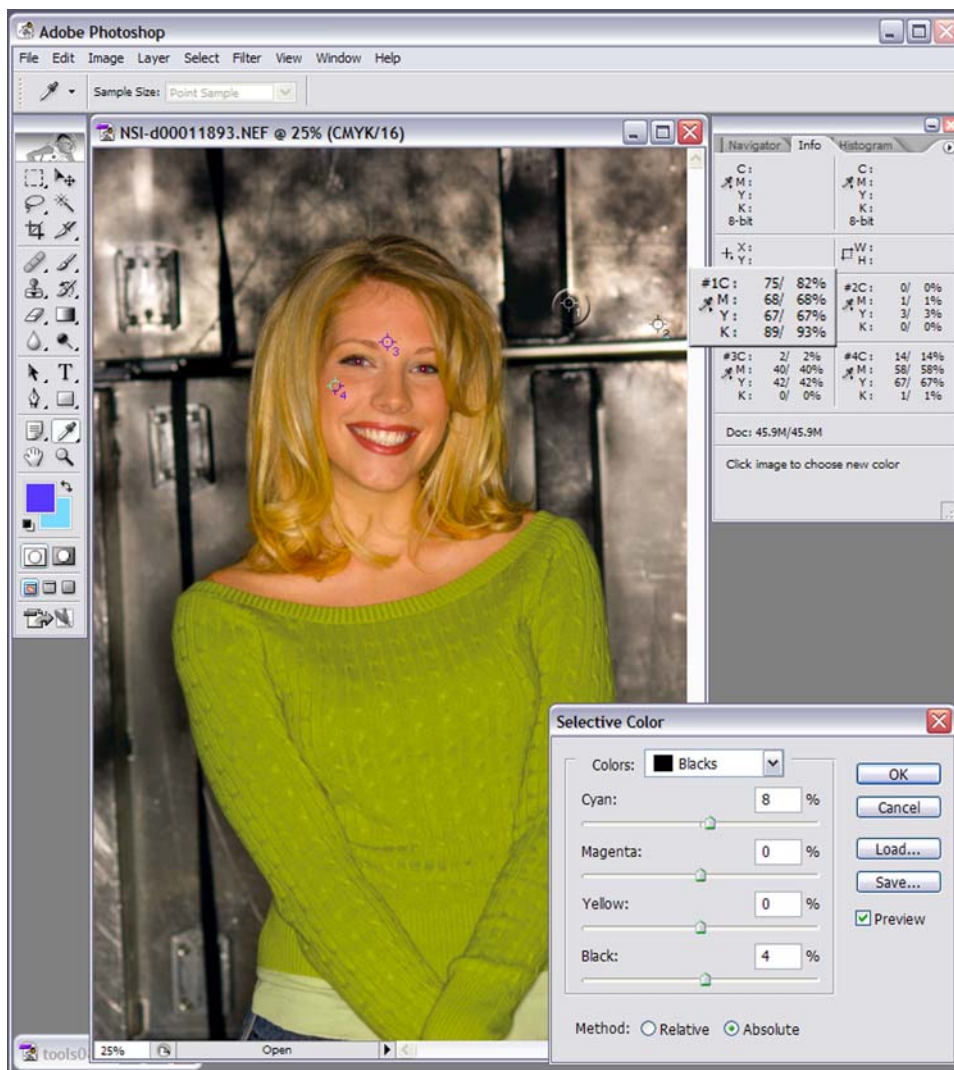

FIGURE 1-3 Color Sample #1 (black pixel) optimized for Blacks
2. Select Blacks from the Colors dropdown list. Now we're adjusting only the blacks in the image. Our goal is to create a good neutral black when printed. Watch the values of color sample #1 (our black pixel) change as we make the following adjustments (Figure 1-3).
2. Drag the Magenta and Yellow sliders until the M and Y values of sample #1 are both in the range 63-70%. In Figure 1-3, the M and Y values are already at 68% and 67%, respectively, so we did not need to adjust Magenta and Yellow.
Add up the adjusted values of C, M, Y, and K in sample #1. This represents the "total ink limit" of the image. Ask your printer what the total ink limit is for the press that will print your job, then adjust the C, M, and Y values so that you don't exceed that total limit. If you can't get specific information about the press, then a total ink limit of 300-310 is good for most modern presses in the US. (In Figure 1-3, the total ink limit after adjustments is $82+68+67+93=310$.)